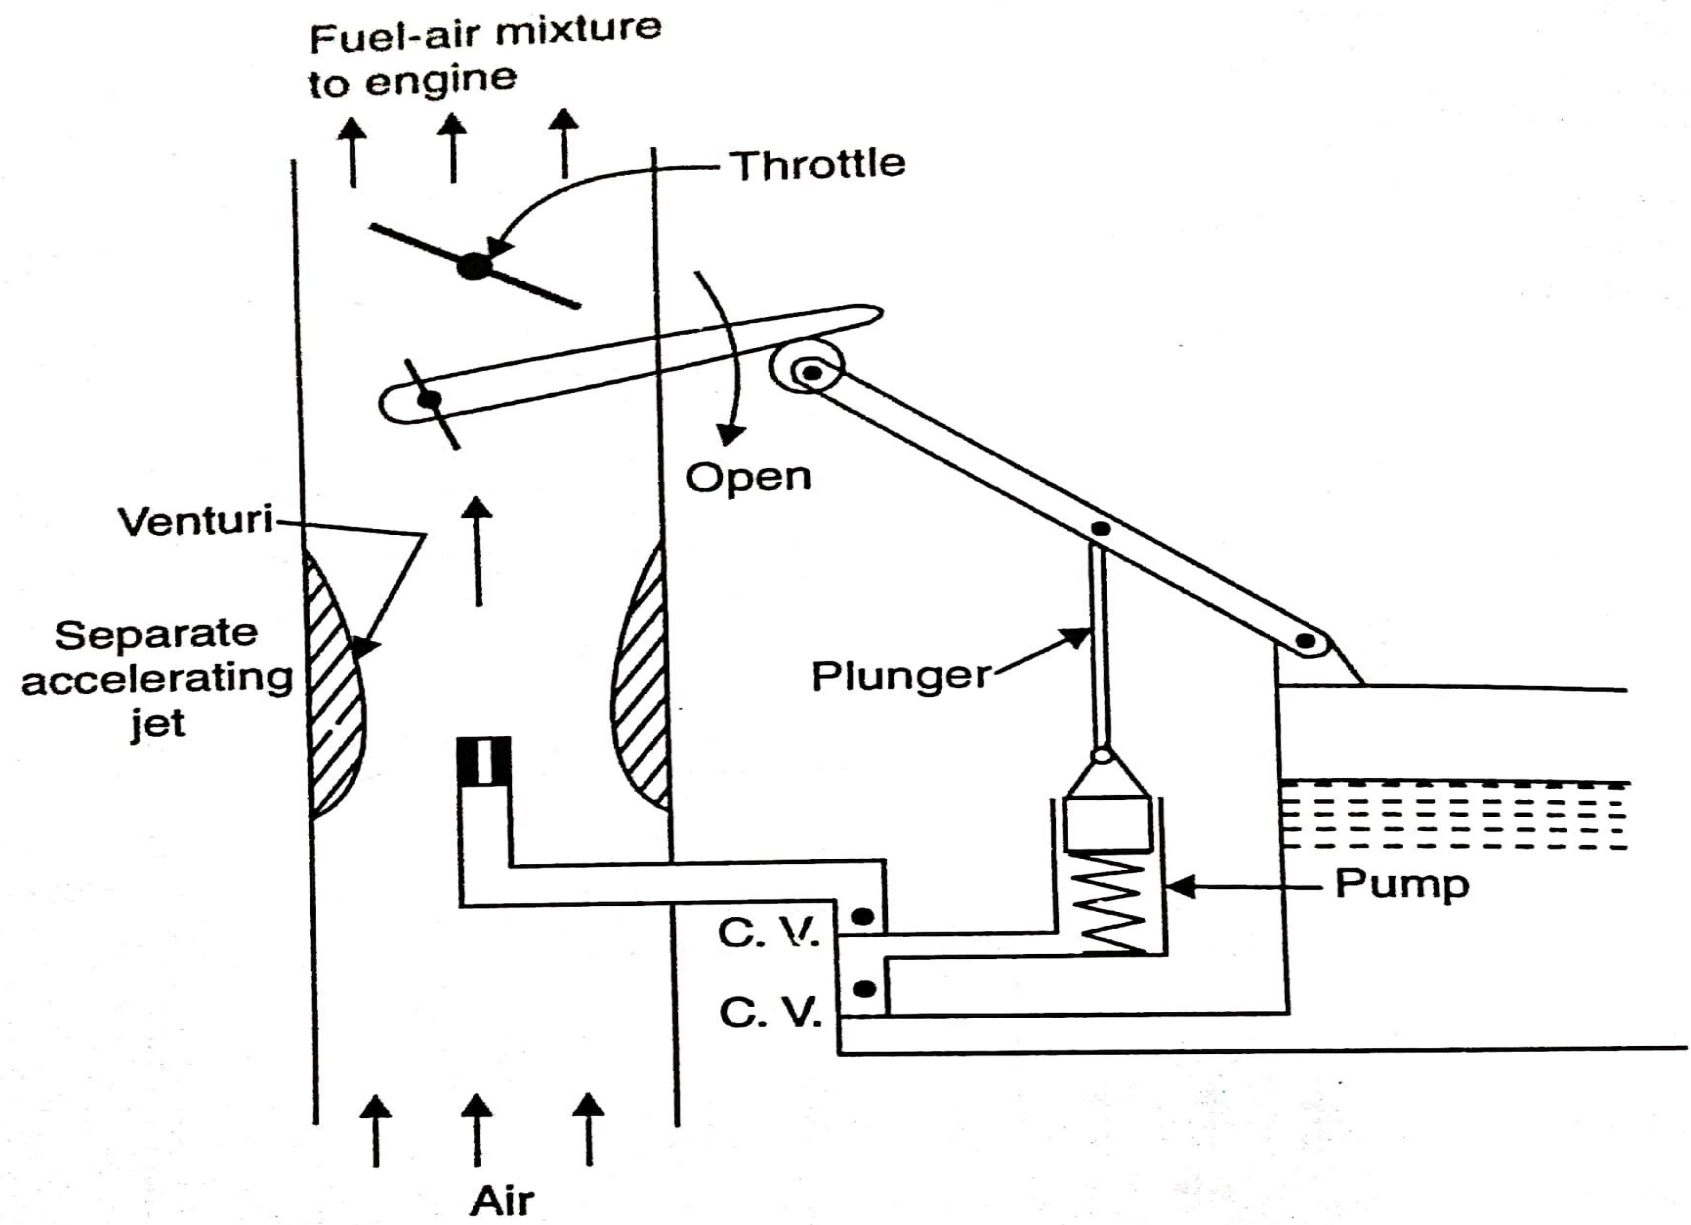

Fig. 11.14. Acceleration pump.
- Fig. 11.14 shows an *acceleration pump*. It consists of a spring-load plunger. Also is provided a linkage mechanism so that when throttle is rapidly opened the plunger moves into the cylinder and forces an additional jet of fuel into the venturi. An arrangement is also provided which ensures that when throttle is opened slowly, the fuel in the pump cylinder is not forced into the venturi but leaks past plunger or some holes into the float chamber.